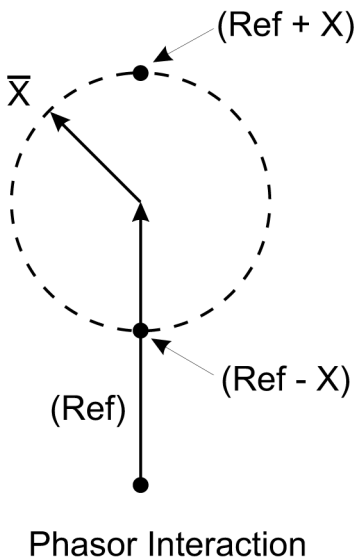

Figure 3-7. RF Measurement Chart
67. Use a RF measurement chart in Figure 3-7 on page 3-10 to find the corresponding return loss value of the peak-to-peak ripple value.